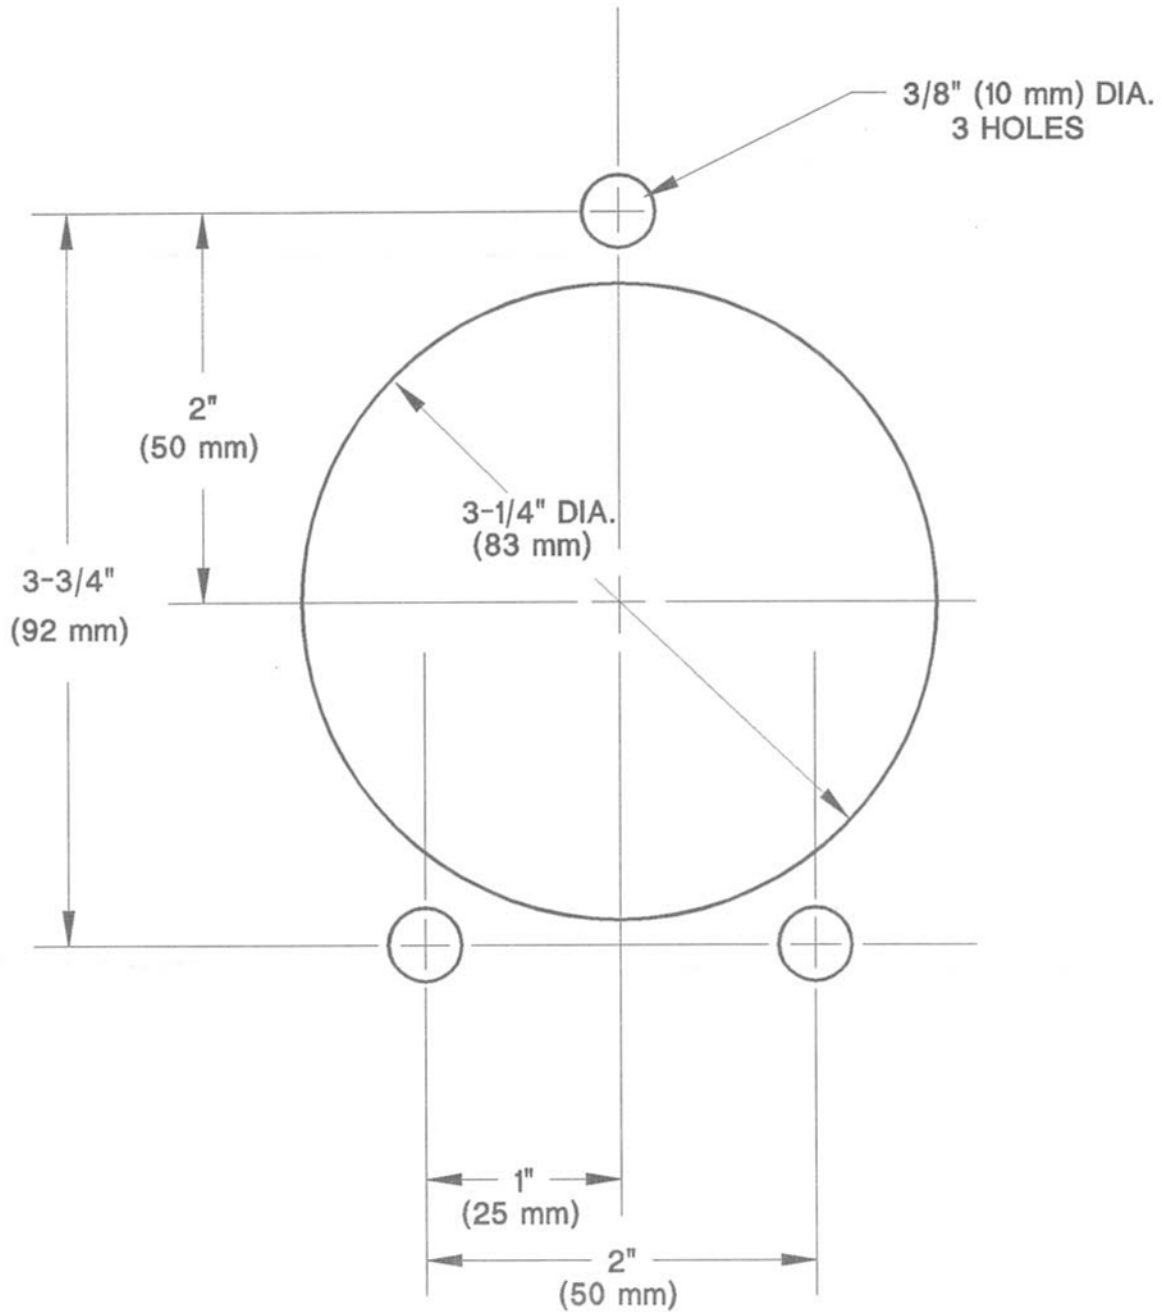

FIGURE 7
2. Locate the approximate position for the bezel on the console or dashboard. Using template provided (Figure 7) mark the location of the holes. Drill three (3) holes 3/8" diameter and one (1) 3-1/4" diameter hole through the dash.